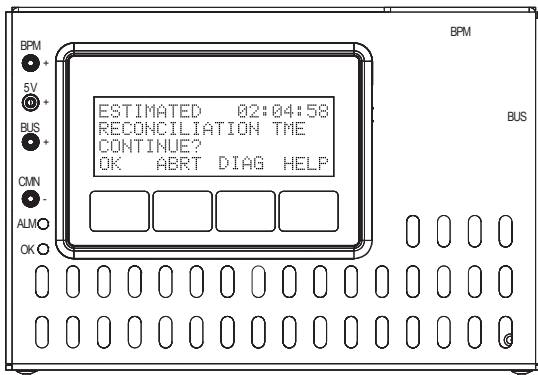
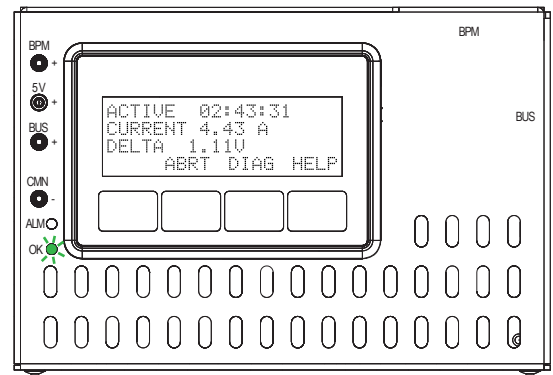
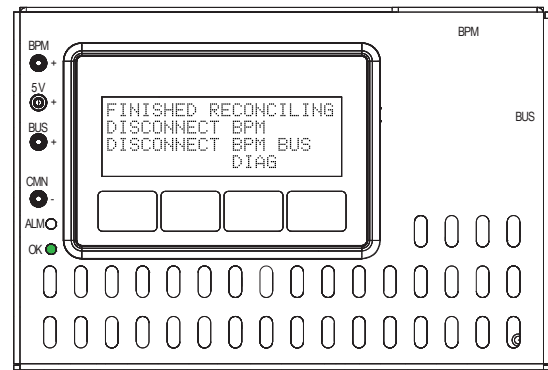

Fig. 5-10, BRD Screen - Reconciliation Estimated Time
Fig. 5-11, BRD Screen - Reconciliation in Process
Fig. 5-13, BRD Screen - Reconciliation Complete
9. Reconciliation will start - the green LED will blink during this process (Fig. 5-11). The top line on the BRD display will show an estimated time (Fig. 5-10). Ordinarily this is a rapid process unless the BPMs are not already balanced to a common charge level. During this process, the BRD may become warm to the touch. Reconciliation is done when the BRD's OK green LED lights up solid (Fig. 5-13).
14. Reconciliation will start - the green LED will blink during this process (**Fig. 5-11**). The top line on the BRD display will show an estimated time (**Fig. 5-10**). Ordinarily this is a rapid process unless the BPMs are not already balanced to a common charge level. (Displayed on BRD.) During this process, the BRD may become warm to the touch. Reconciliation is done when the BRD's OK green LED lights up solid.